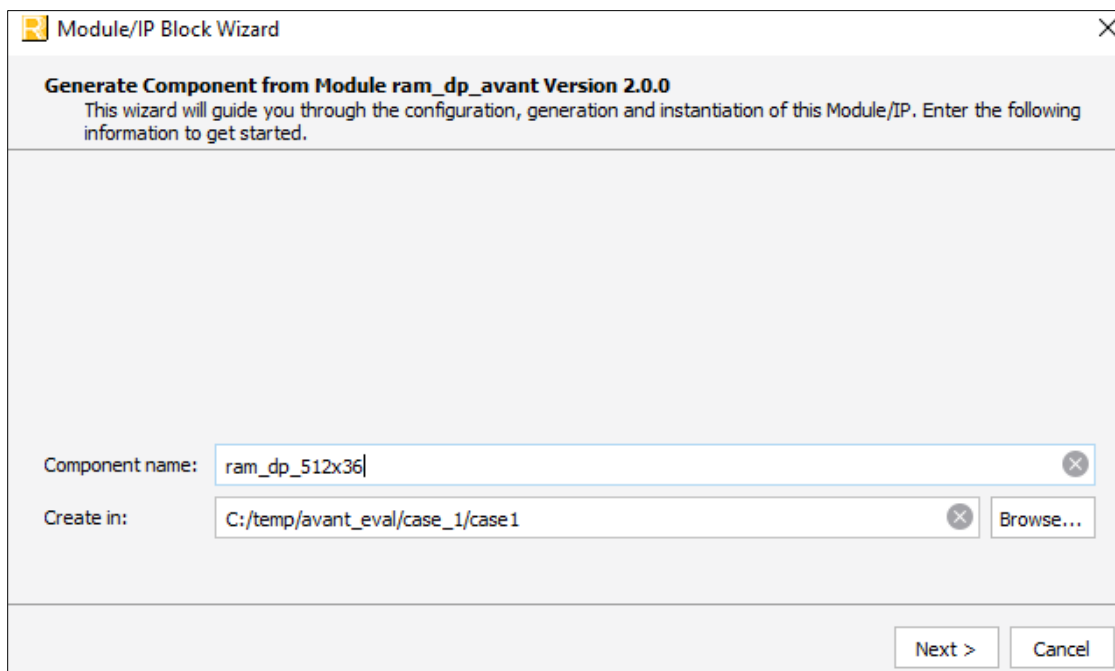

Figure 2.3. Example: Generating Pseudo Dual Port RAM (RAM_DP) Using IP Catalog
2. Fill out the module information, as shown in Figure 2.3.